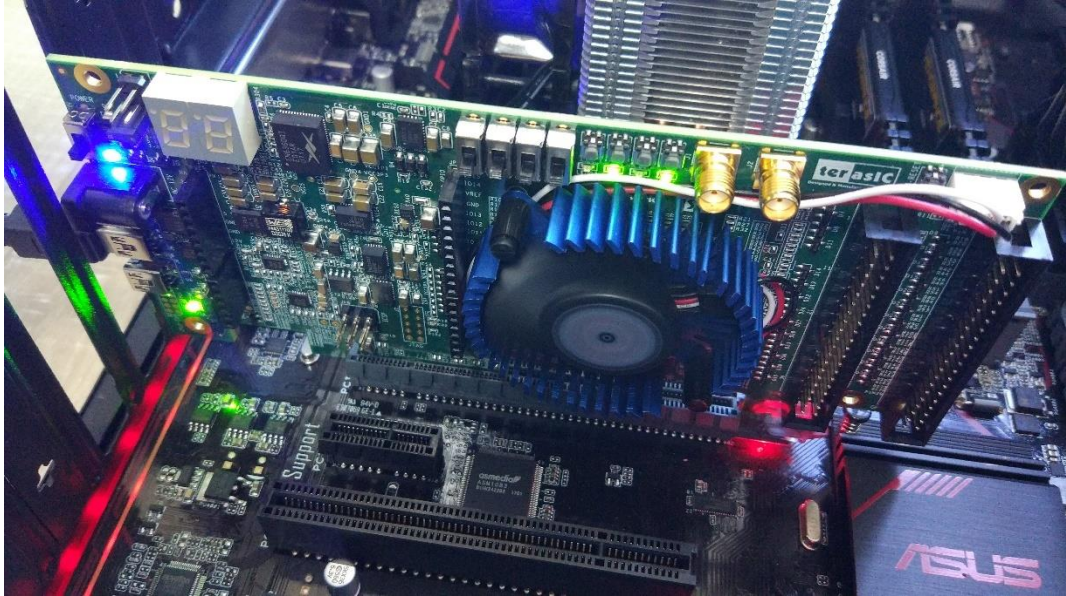

Figure 8-4 FPGA board installation on PC
1. Install the FPGA board on your PC as shown in **Figure 8-4**.